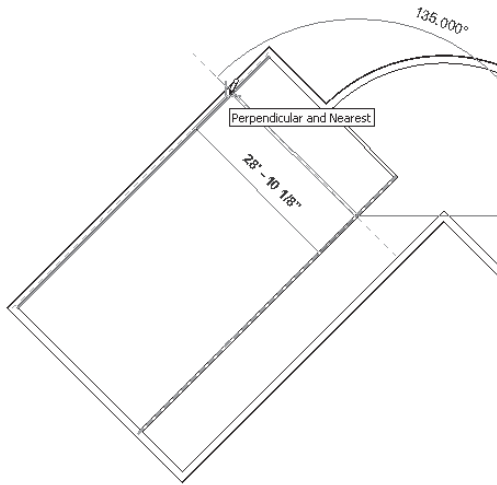

Figure 3-68 Sketching the third interior wall
7. Move the cursor upward towards the left until it reaches the exterior wall and the **Perpendicular and Nearest** object snap is displayed, as shown in Figure 3-68. Click to specify the endpoint of the wall.